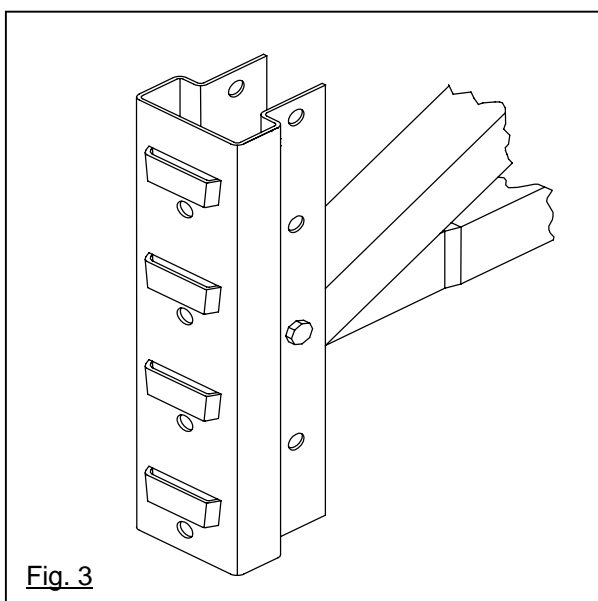

Fig. 3
- STEP 3. Starting at the bottom of the uprights, bolt diagonal (long) and horizontal, (short) bracing in position. These are located inside the uprights with the open face of the bracing facing down at all times. Where two diagonals or a horizontal and a diagonal meet at a fixing point, location to the upright is by means of a single M10 x 55mm bolt and a M10 Nyloc nut. The bolt passes through the upright and then through the holes of the bracing sections which have been 'nested' together prior to connection. Fig 3